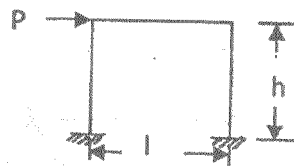

Fig. 1
6. Write the shear equation for the portal frame shown in fig. 1. 3